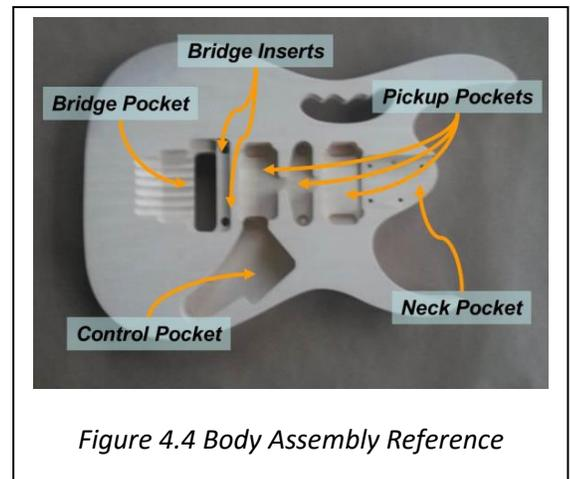

Figure 4.4 Body Assembly Reference
Refer to Figure 4.4 during this section. Noted wiring colors are typical and may vary.
1. Remove the adjustment screws from the inserts (item #4 on the material list) and gently tap the insert into place (ref. Fig 4.4) using a piece of wood on top of the insert so you don't damage it.